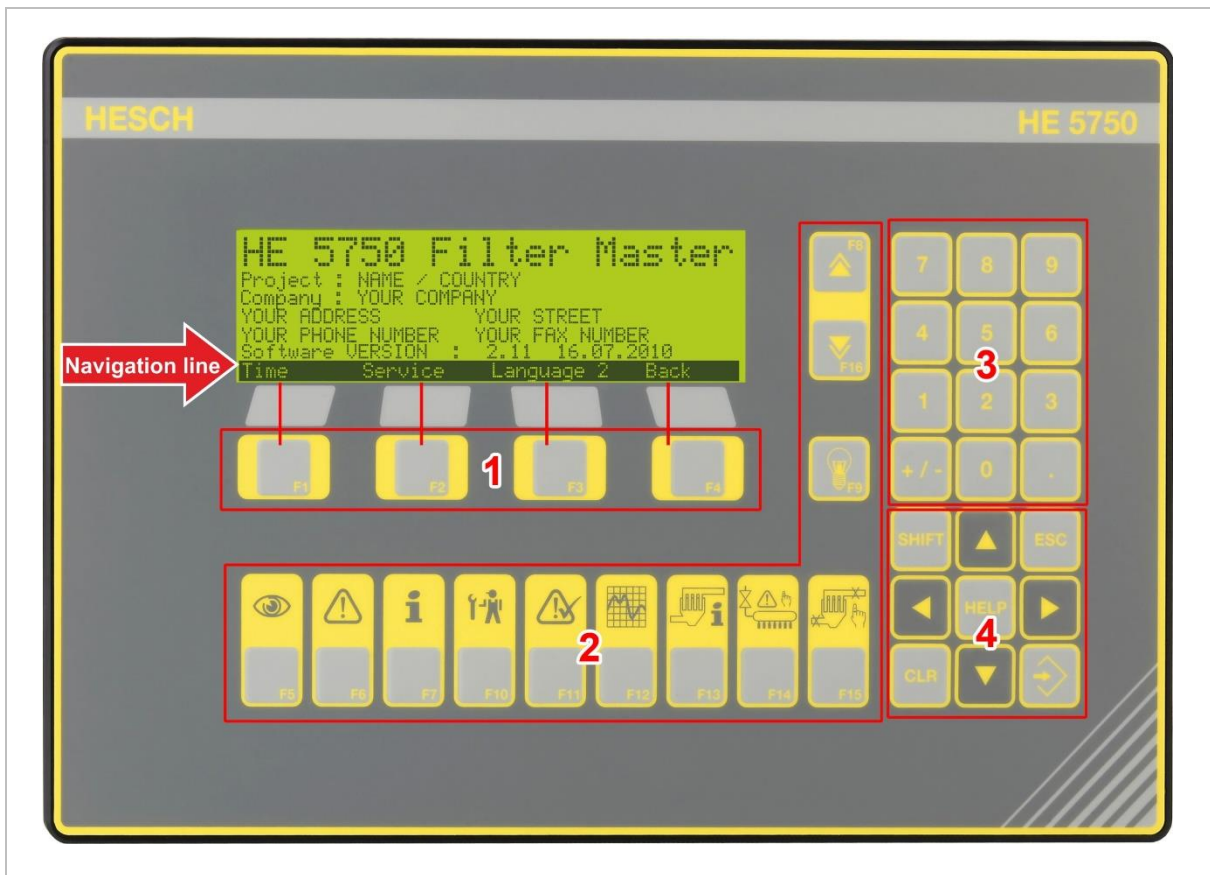

Figure 17. HE 5750 Display and operating elements
Press the keys UP or DOWN to change the numeric value or to navigate through the menu. Values can also be entered via the numeric keypad (pos. 3 in Figure 17).